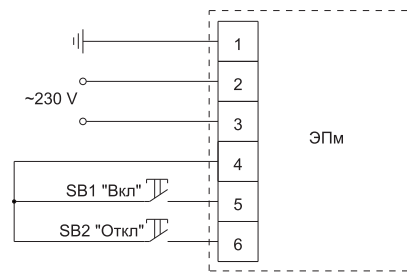

Рисунок 3 – Электрическая схема подключения привода / Figure 3 – Electrical diagram of electric drive connection
Electrical connections during installation of the electric drive must be made in accordance with the diagram (figure 3), using stranded copper conductors with a cross-section of at least 1.5 mm2.
– connect the "Off" and "On" buttons to the terminal blocks of the electric drive 2 (the buttons are purchased separately) in accordance with the diagram shown in figure 3.